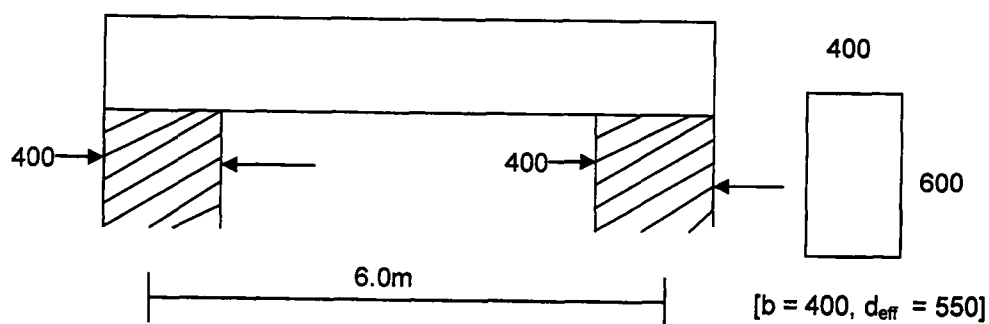

FIGURE 2 (RAJAH 2)
5. By calculation, design a beam (bending reinforcement) shown in Figure 2.